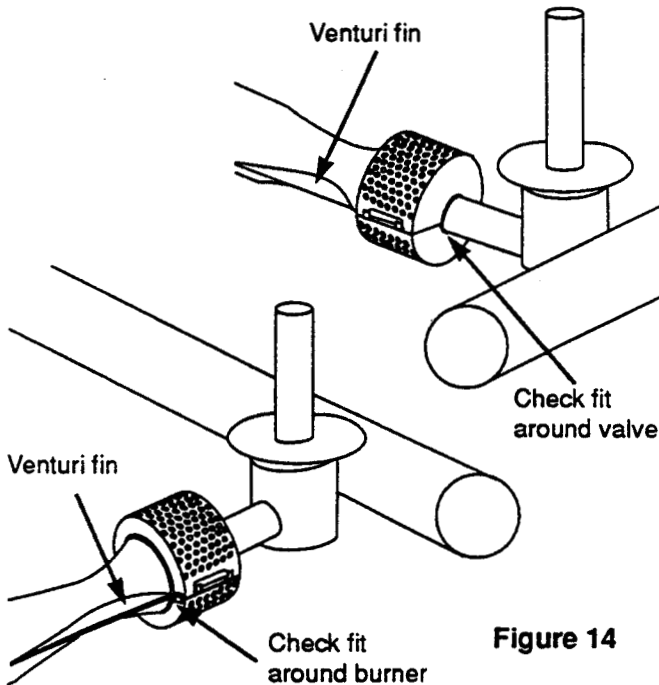

Figure 14
i) Reinstall the Spider Stopper Guards. Slightly rotate the Spider Stopper Guards so that the seams are in line with the Venturi fins. There should be no gaps in the seams or in the fit around the burners and valves. Figure 14.